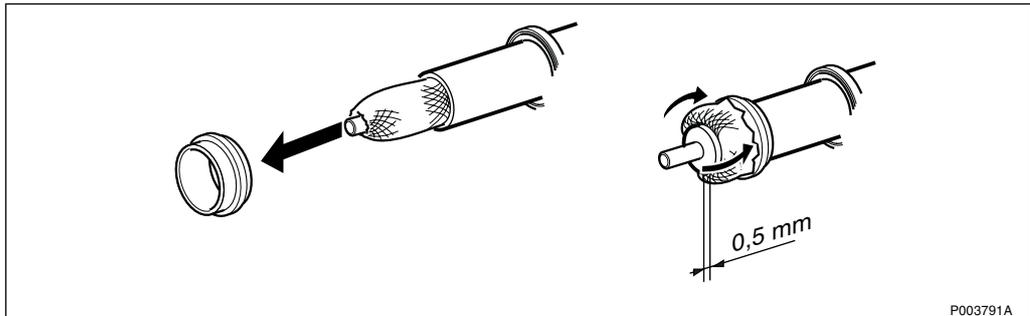

Figure 248 Mounting the braid clamp
7. Verify the measurement with a slide caliper, see Figure 248 on page 212.